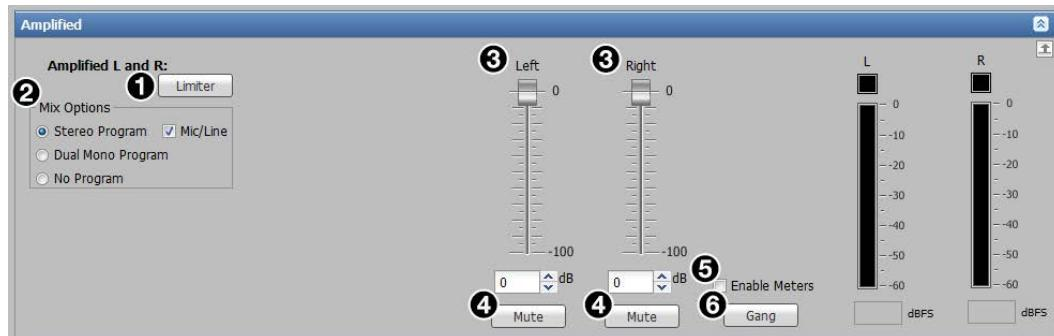

Figure 74. Amplified Audio Output Section (SA Models)
2. If the section has multiple faders, click the **Gang** button (see **figures 74 and 76-78**, ⑥ starting on page 108) to constrain the proportions between fader levels.